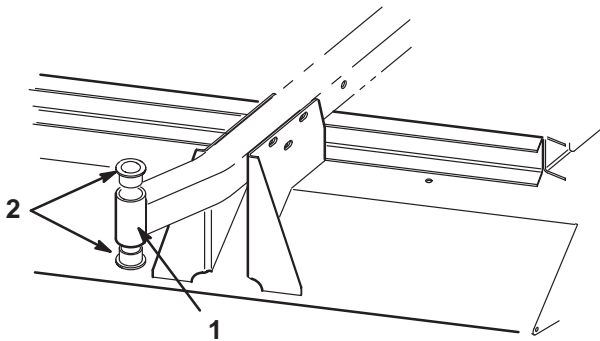

Figure 24
4. Insert a pin punch into the top or bottom of the mounting tube and drive the bushing out of the tube (Fig. 24). Also drive the other bushing out of the tube. Clean the inside of the tubes to remove dirt.